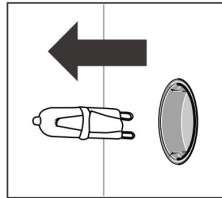

Figure 6
3. Remove the light and replace it with the same type (Figure 6).